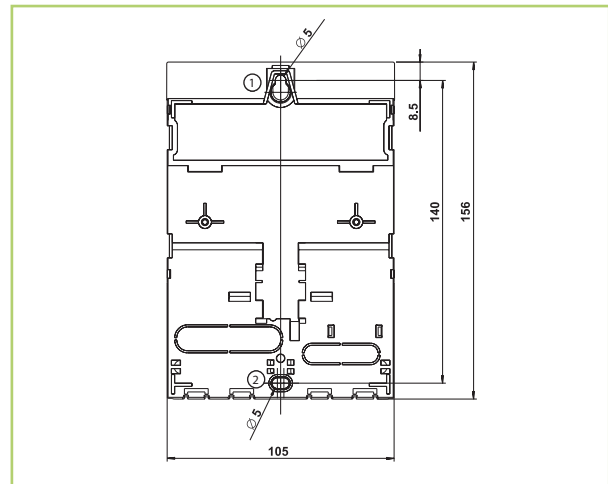

Fig. 28: Rear of the controller with the mounting openings at the top ① and bottom ②
2. ➤ Screw in the screw for the top mounting opening ① (Fig. 28) so that the screw head has a distance of 5 ... 7 mm to the mounting surface.
4. ➤ Mark the bottom mounting opening ② through the controller housing.
6. ➤ Hook the controller to the top mounting opening ① and fix it through the bottom mounting opening ② with the screw.